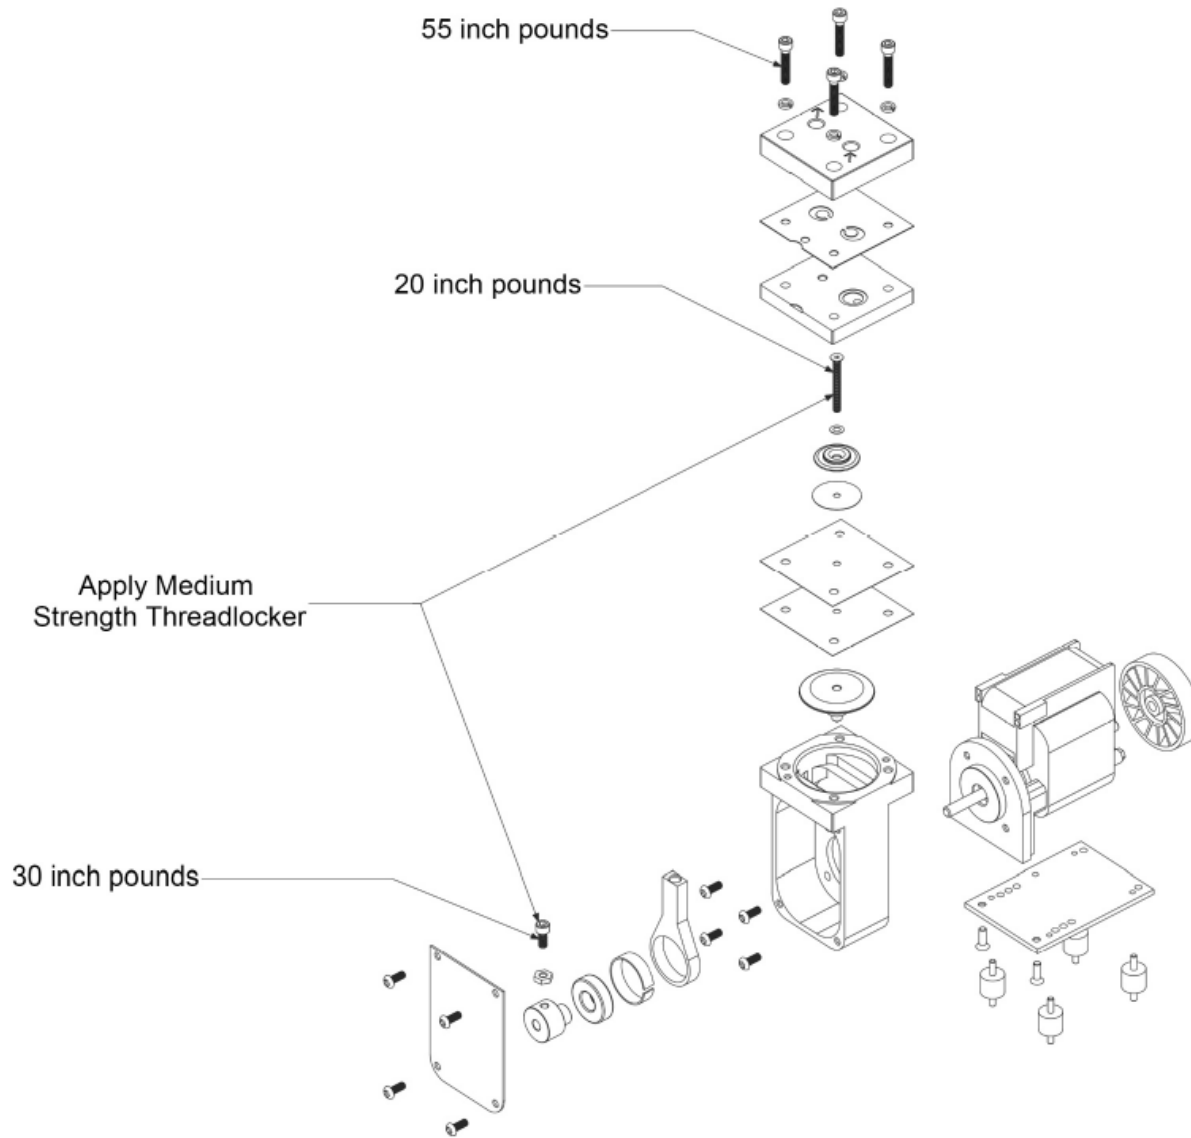
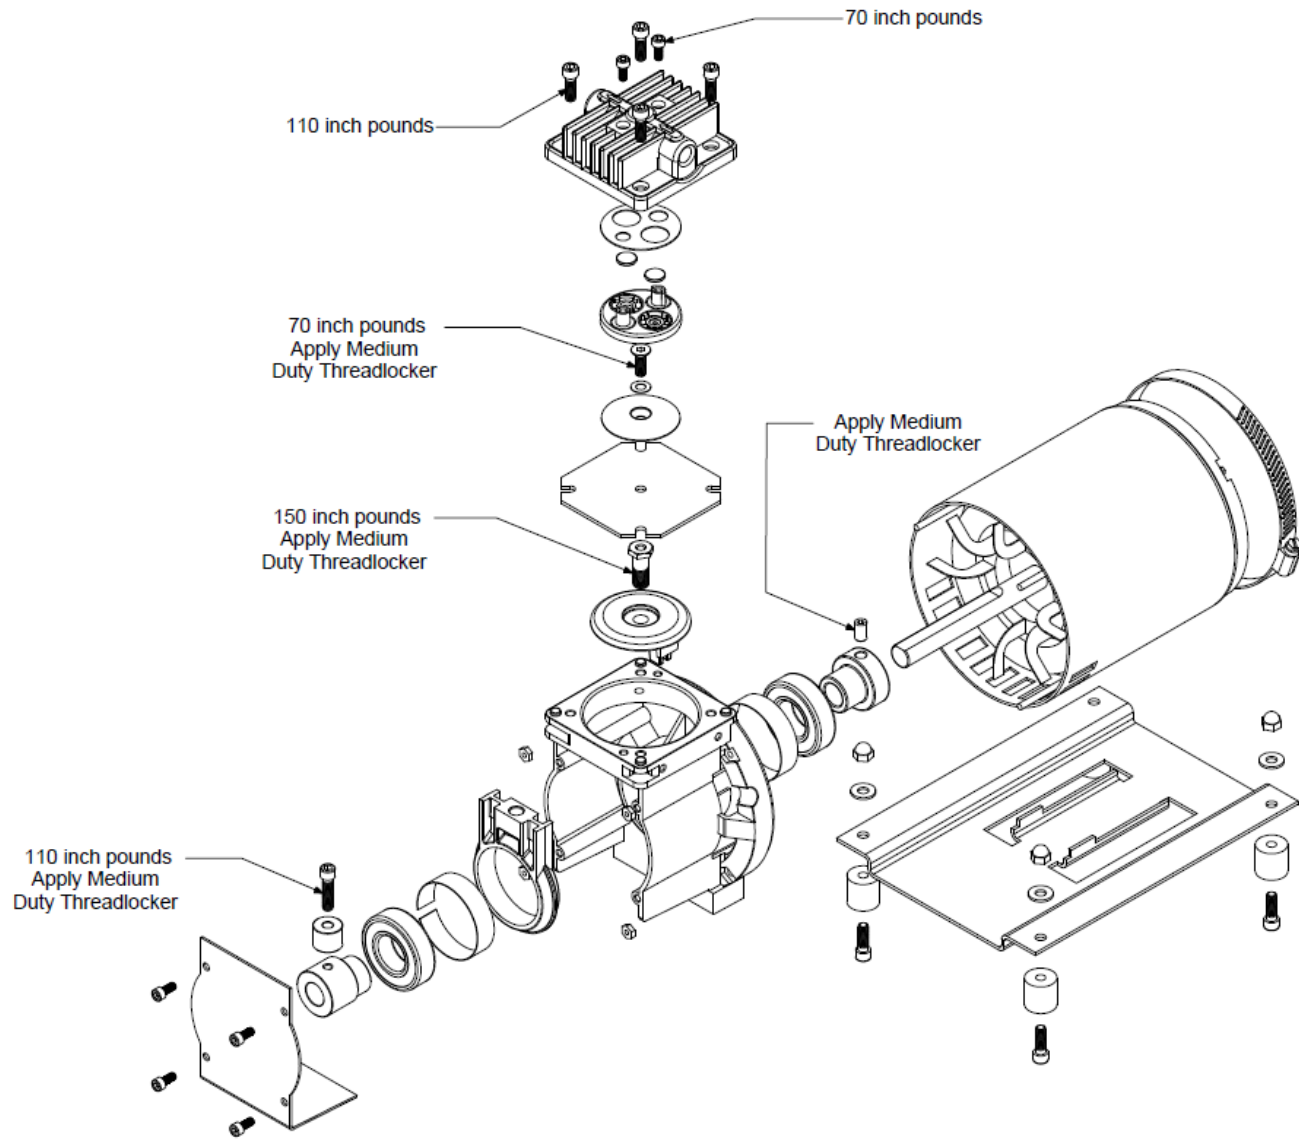

Figure 2-1: J161-FP-GB2 Bolt Torque Diagram
Figure 2-2: R221-FP-RA1 Bolt Torque Diagram
3. Make note of any fittings and screws used to attach and connect the vacuum pump to the analyzer in order to reconnect and reattach them correctly when maintenance is complete. Refer to Figure 2-1 and Figure 2-2 for pump disassembly.
1. Prior to disassembly, make note of the orientation and position of the individual parts as they are removed. This will ensure they are reassembled correctly after maintenance is complete. Refer to Figure 2-1 and Figure 2-2 for pump disassembly.
8. Next apply a drop of a medium strength thread locker (such as Loctite®242) to the screw. Tighten the diaphragm plate screw into the connecting rod bolt. It is important that when reassembling your pump you follow the torquing specifications listed in Figure 2-1 or Figure 2-2.